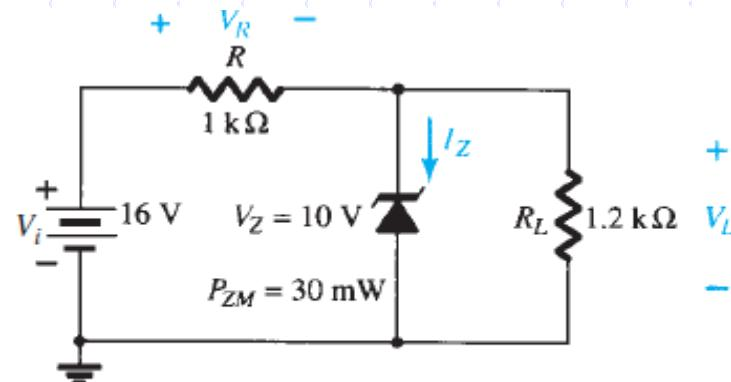

FIG. 2.115
- For the Zener diode network of Fig. 2.115 , determine V_L , V_R , I_Z , and P_z .